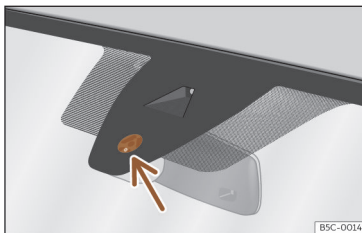

Fig. 98 Sensitive surface of the rain sensor.
The possible causes of anomalies and erroneous interpretations in the sensitive surface area >>> **Fig. 98** of the rain sensor are, among others:
- **Dirt:** dry dust, wax, coating on glass (Lotus effect) or traces of detergent (car wash) may reduce the effectiveness of the rain sensor or make it react more slowly, later or not at all. Regularly clean the sensitive surface of the rain sensor >>> **Fig. 98** (arrow) and check for possible damage to the wiper blades.